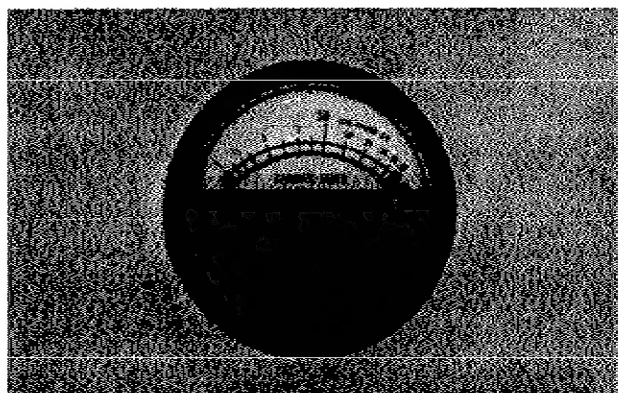

Figure 7. View showing Carrier Meter
6. Now tune in stations by tuning with the main control knob. (See Fig. 6) As the station is tuned in, the carrier meter needle (See Fig. 7) will move from the left side of the scale to the right. Carefully tune the receiver by causing the meter needle to move as far to the right as possible. At this point the receiver is properly tuned to the station.